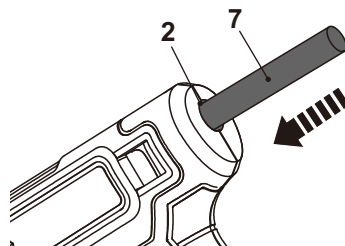

Fig. 3
1. Check the size of glue stick (7) is between 10.8-11.5 mm in diameter.
2. Align and insert the glue stick (7) into the feeding channel (2) until it stops (Fig. 3).